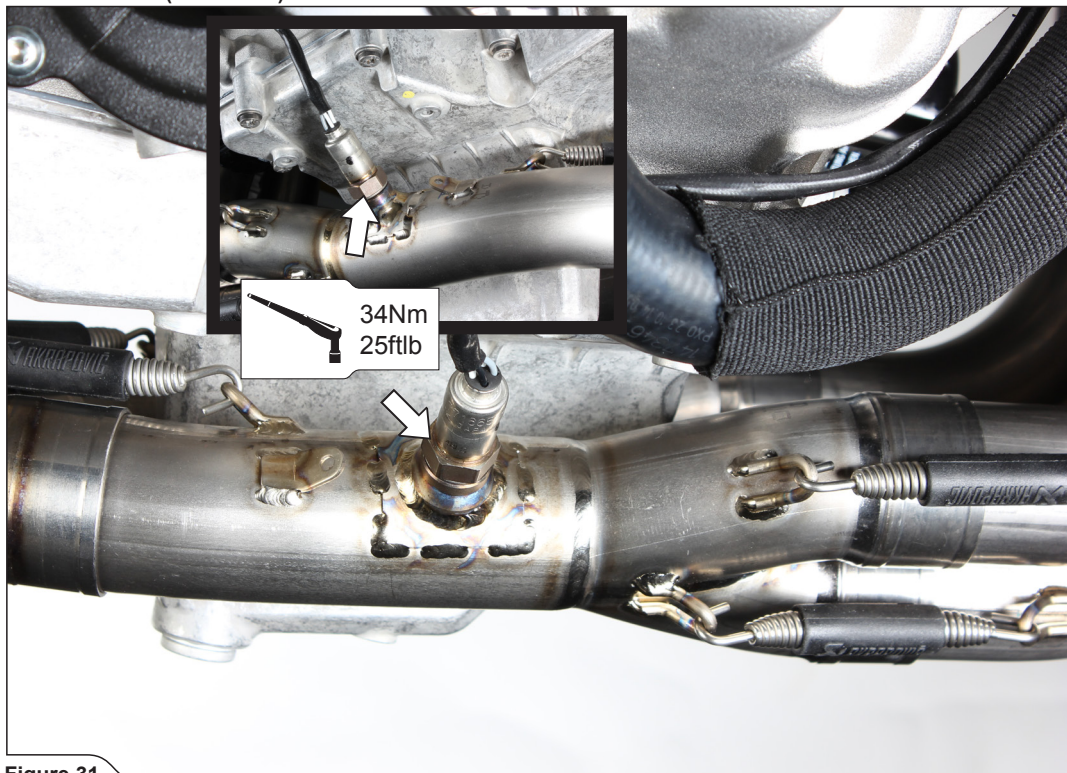

Figure 31
5. Tighten both lambda sensors into the collectors (Figure 31).